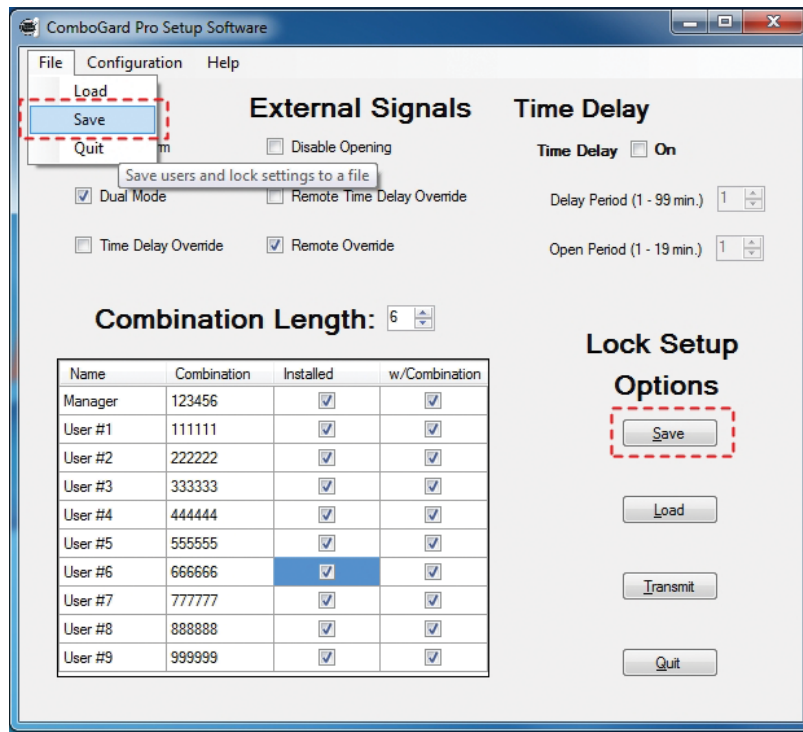

Figure 16
1. Click the **Save** button or on the **Files** tab at the top of the program and select Save (Figure 16).